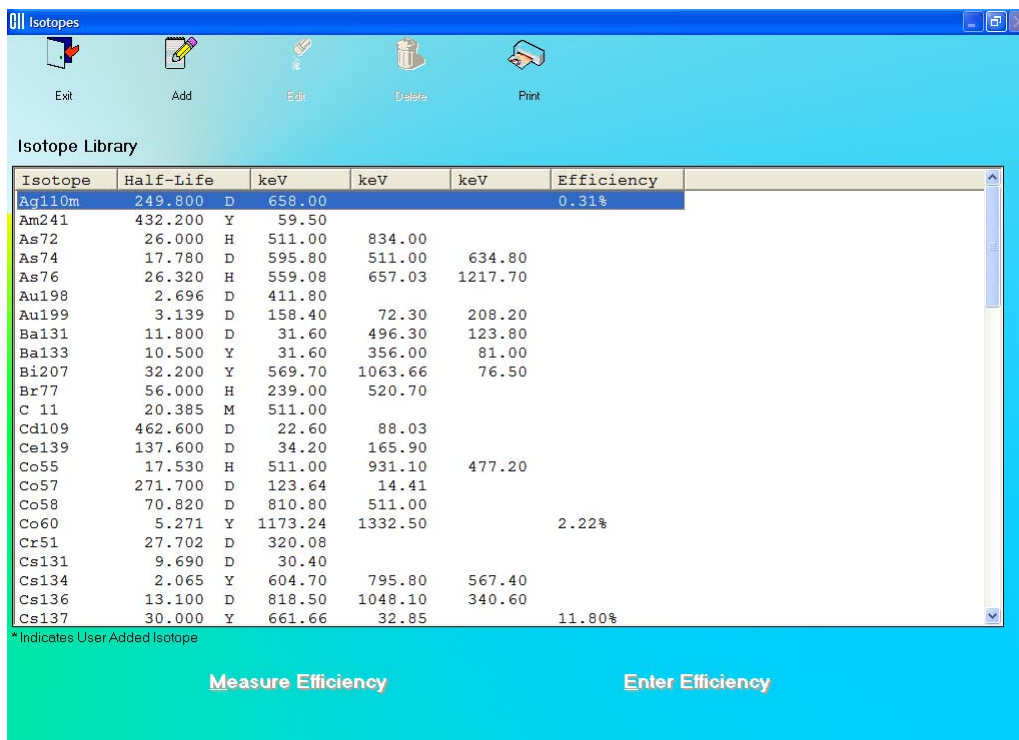
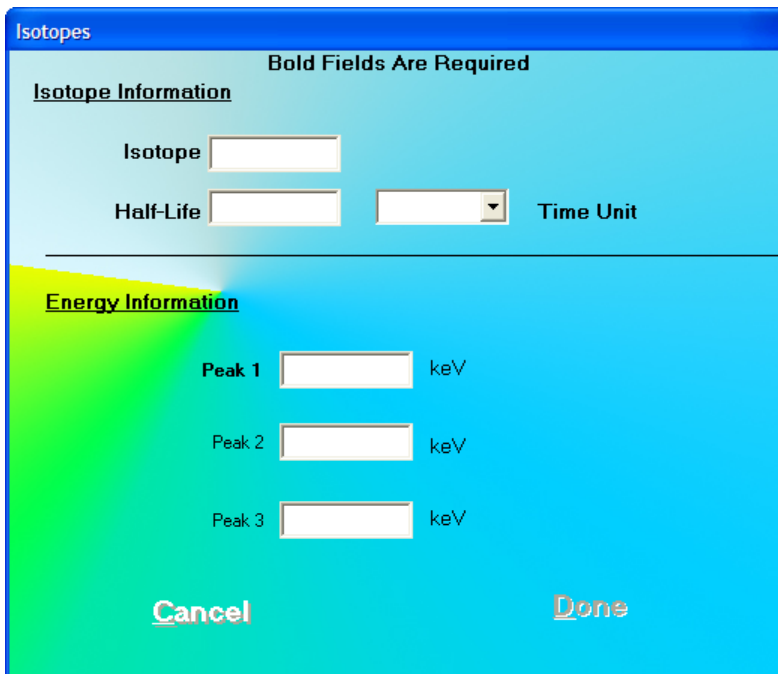

Figure 6-1 Isotopes Main Screen
Figure 6-2
To access the Isotopes module, click the  button or press *Alt+/* on the Absorbed Dose ALERT Main screen. Figure 6-1 Isotopes Main Screen will appear.
1. Click the  icon on Figure 6-1 Isotopes Main Screen. Figure 6-2 will appear.
1. If the isotope to be edited is out of view in the **Isotope Library** box on Figure 6-1 Isotopes Main Screen, scroll up or down the list in **Isotopes Library** box using the scroll bar or use *Page Down*, *Page Up*, *↑* and *↓* keys or press the first letter of the isotope to bring it into view.
- Click the  icon. Figure 6-2 will appear.
- Click the  button or press *Alt+D* to save changes or click the  button or press *Alt+C* to cancel the changes and return to Figure 6-1 Isotopes Main Screen.
- If the isotope to be deleted is out of view in the **Isotope Library** box on Figure 6-1 Isotopes Main Screen, scroll up or down the list in **Isotopes Library** box using the scroll
1. If the isotope to be measured is out of view in the **Isotope Library** box on Figure 6-1 Isotopes Main Screen, scroll up or down the list in **Isotopes Library** box using the scroll bar or use *Page Down*, *Page Up*, ↑ and ↓ keys or press the first letter of the isotope to bring it into view.
6. Click the **Start Procedure** button or press *Alt+S* to start measurements. Alternatively, click the **Exit** button or press *Alt+X* to return to Figure 6-1 Isotopes Main Screen.